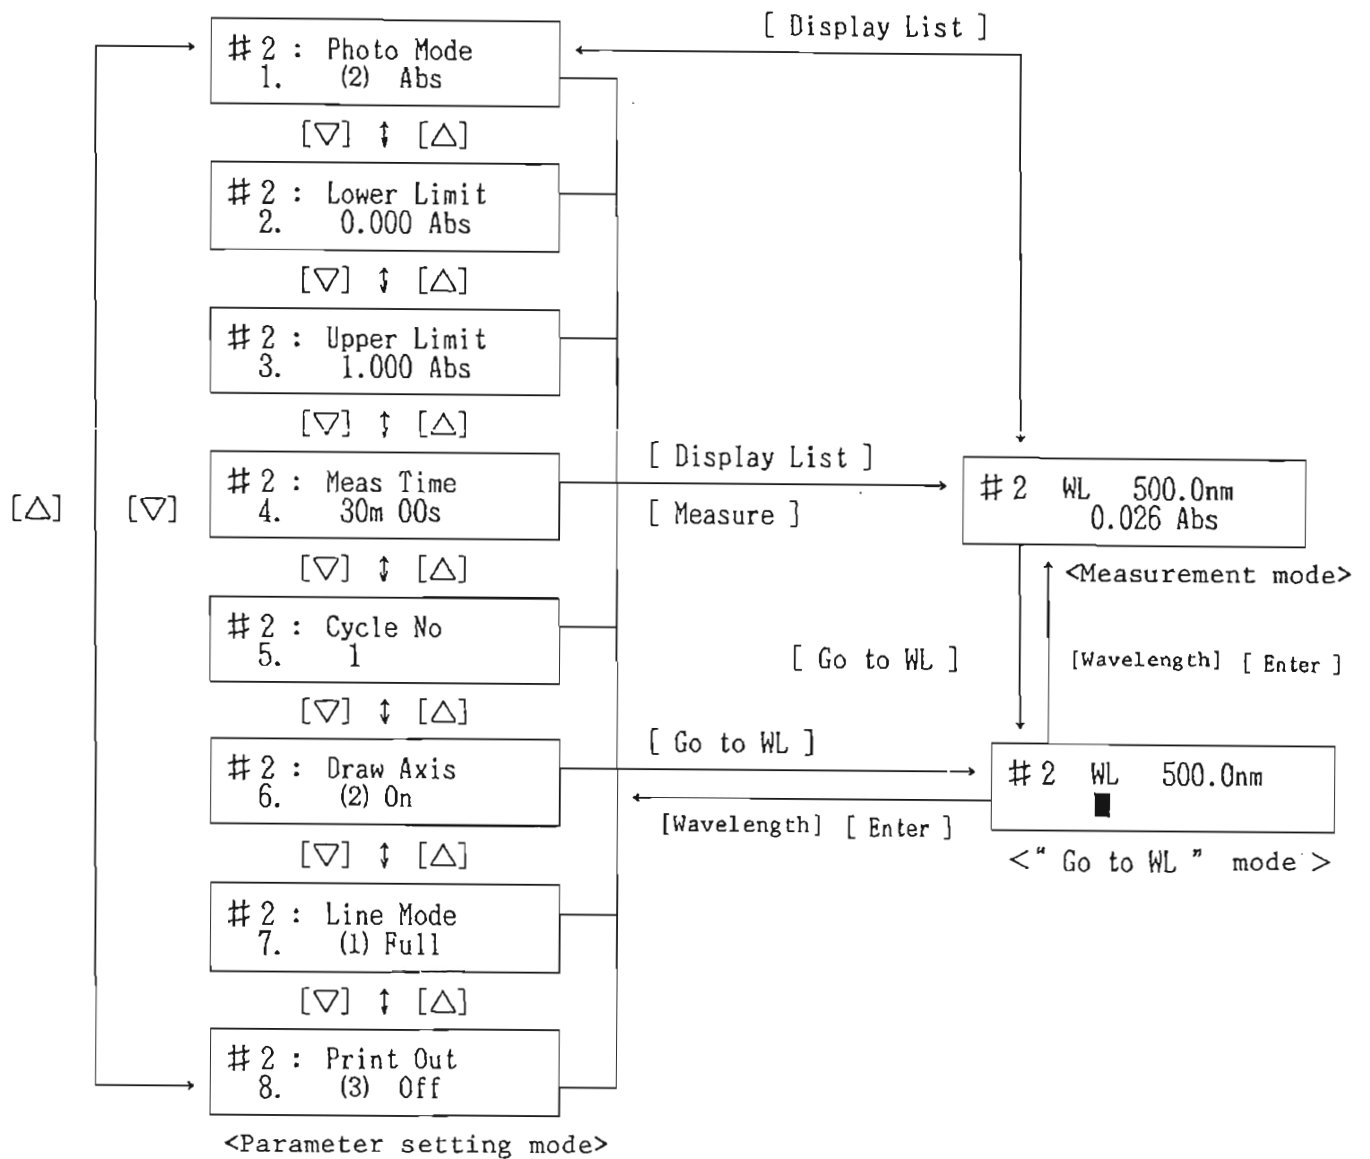

Fig. 6-2 LCD display and key operation in Method 2.
parameter setting mode of Method 1. Fig. 6-2
(2) Check and change parameters in the parameter setting mode shown in Fig. 6-2. Press the cursor key ([ $\Delta$ ], [ $\nabla$ ]) to change the LCD display as shown in the figure and check the displayed value. For how to change, refer to Section 7.
NOTE: The measurement parameters are set as shown in Fig. 6-2 as standard.
(3) Select the measurement wavelength by the following key operation. Fig. 6-2 shows the change in the LCD display when the key is operated.